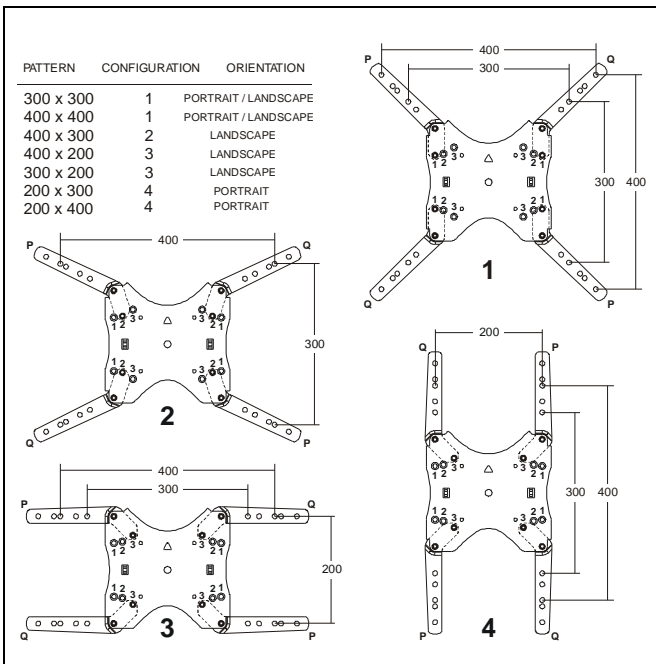
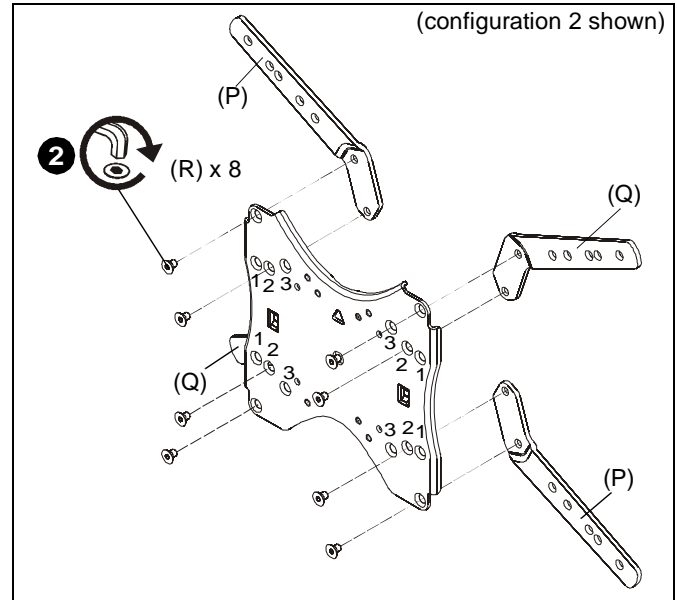
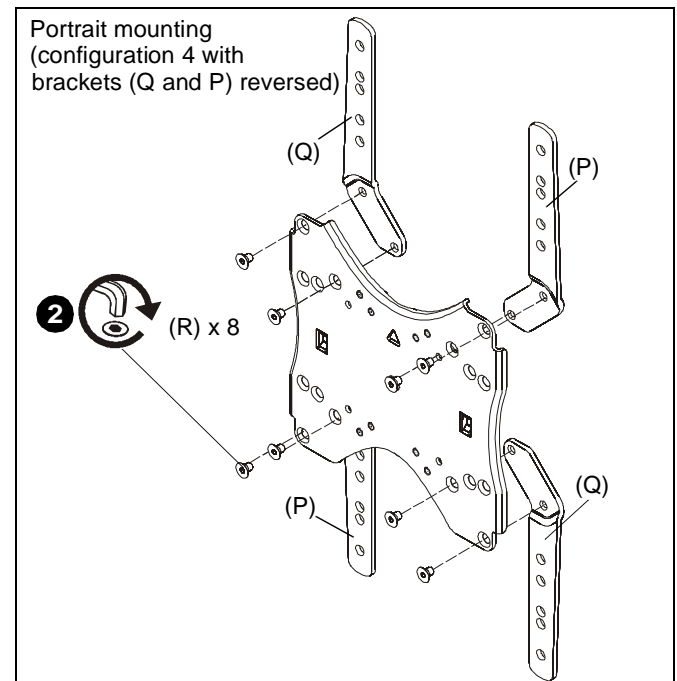

Figure 5
Figure 6
Figure 7
1. Refer to chart in Figure 5 or enclosed quick-install sheet to determine the configuration to follow to assemble interface brackets to faceplate.
2. Use 5/32" hex key (S) and eight 1/4-20 x 3/8" flat head cap screws (R) to connect top right brackets (P) and top left brackets (Q) to faceplate (H). (See Figure 6) or (See Figure 7) for portrait mounting
NOTE: If portrait mounting to a 200 x 300 or 200 x 400 mounting pattern, the interface brackets (Q and P) are reversed from the other orientations. (See Figure 5) and (See Figure 7)